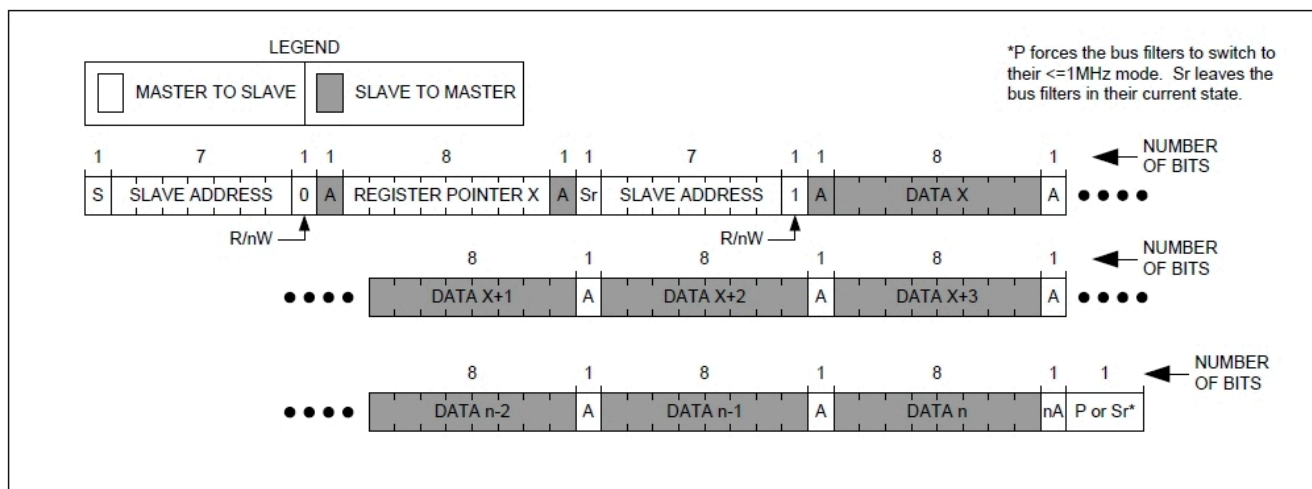

Figure 11. Reading Continuously from Sequential Registers X to N
Figure 11 shows the protocol for reading from sequential registers. This protocol is similar to the read byte protocol except the master issues an acknowledge to signal the slave that it wants more data: when the master has all the data it requires it issues a not acknowledge (nA) and a stop (P) to end the transmission.